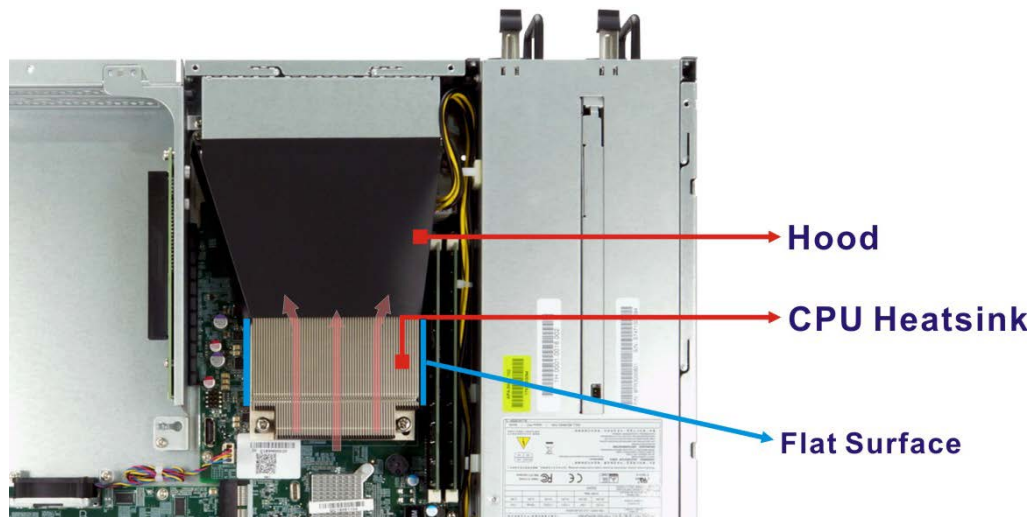

Figure 3-7: CPU Heatsink Installation
- Step 2: Properly orient the CPU heatsink.** The CPU heatsink must be oriented as shown in **Figure 3-7** so that thermal convection currents can carry the heat away from the heatsink.
- Step 5: Install the hood.** Peel off the backing of the double-sided tapes attached inside the hood. Attach the hood to the chassis and the heatsink as shown in Figure 3-7.